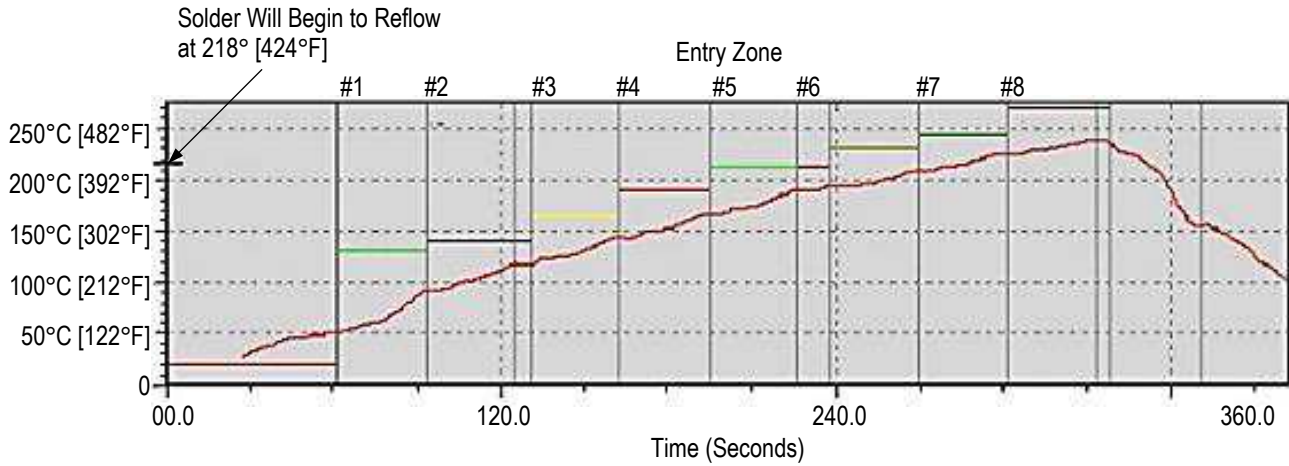

Figure 4 (Cont'd)
The connector must be soldered using non-focused infrared (IR) reflow or equivalent soldering technique. Reflow temperature and time may vary depending on the size of the pc board and placement of other components. This connector can be subjected to the reflow temperature and approximate time specified in Figure 4.
It is recommended that component temperatures not exceed the temperatures and times given in Figure 4.